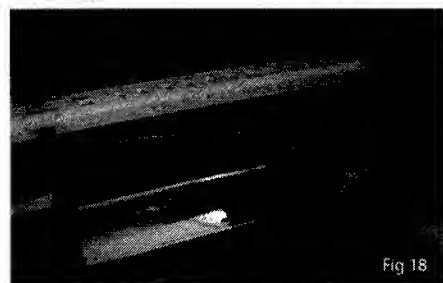

Fig 18
- For the storage of fruit, vegetables and salad items (Fig 18).